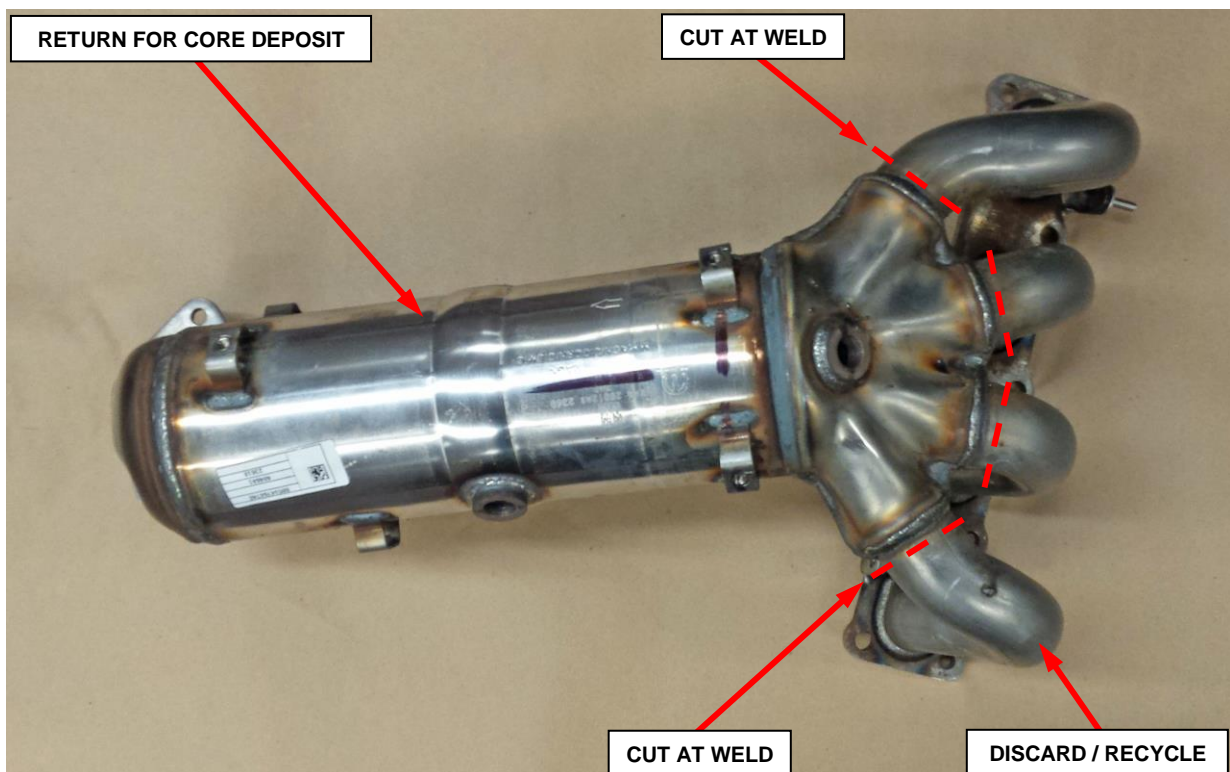

Figure 28 – Maniverter Cut/Remove Pipes
2. Cut the four runner pipes from the maniverter as close to the weld seam as possible (Figure 28).
3. Separate the manifold portion from the catalyst. Discard/recycle the manifold portion and return the catalyst portion for core return credit (Figure 28).